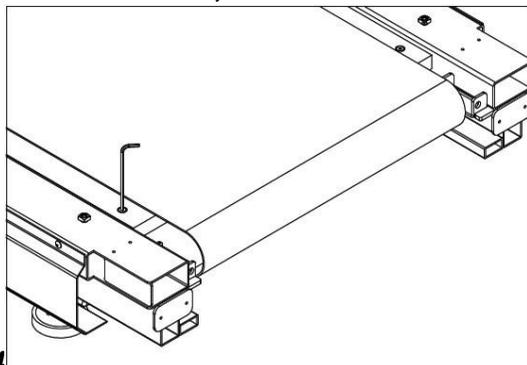
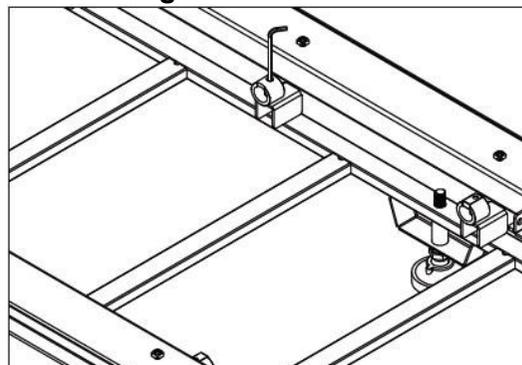

Figure 4.6.4
Figure 4.6.5
11) As shown in Figure 4.6.4, use L-type hexagonal wrench to remove the running plate fixing screw. Set off the running board and replace running board or running belt. To change the cushion, remove the 8 buffers as shown in Figure 4.6.5